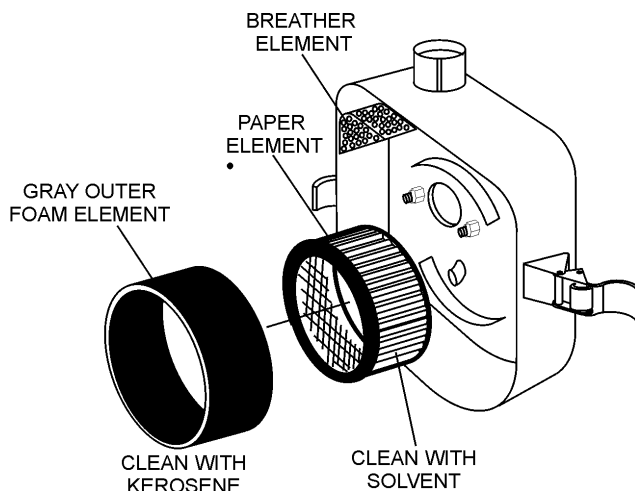

Figure 17. Engine Air Cleaner
- The air cleaner (Figure 17) on the engine side will hardly be contaminated, if it is, clean the outer foam gray element with cleaning solvent. Tightly squeeze outer foam element to remove any excess solvent before reinstalling.
- Tap the paper filter element (Figure 17) several times on a hard surface to remove dirt, or blow compressed air [not exceeding 30 psi (207 kPa, 2.1 kgf/cm²)] through the filter element from the air cleaner case side. **NEVER** brush off dirt. Brushing will force dirt into the fibers. Replace the paper filter element if it is excessively dirty.